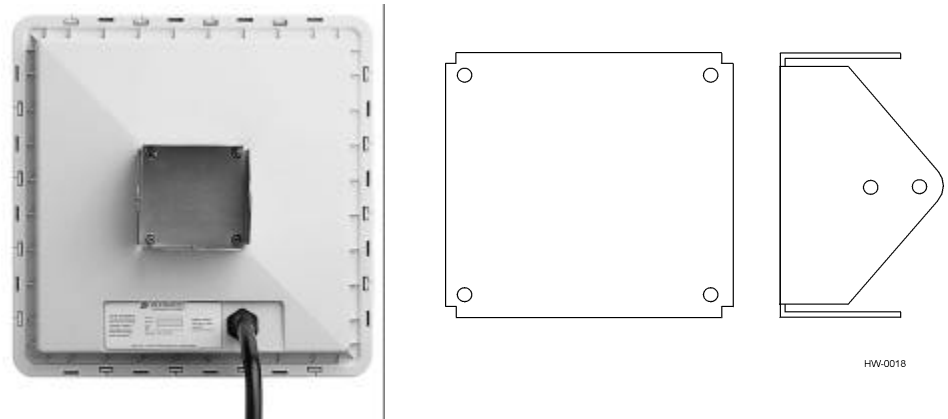
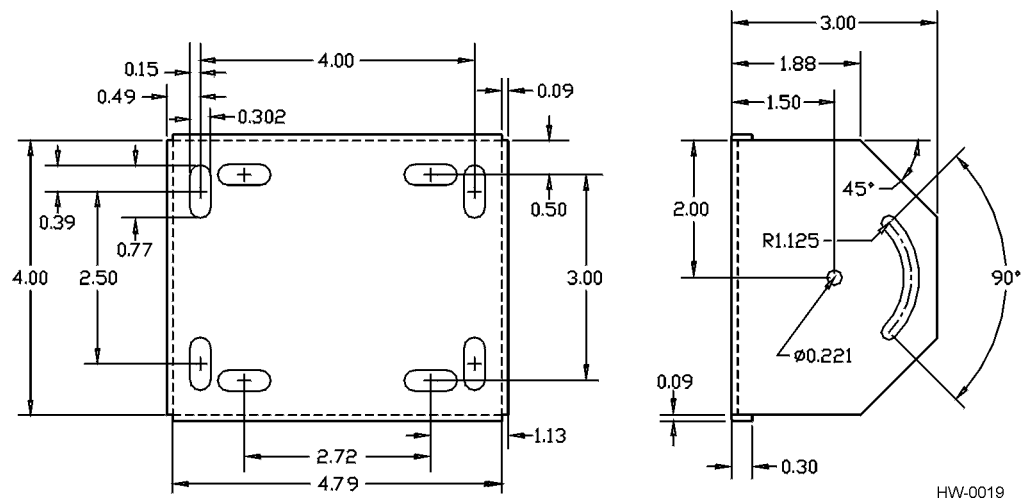

Figure 8-1 Factory-Mounted Bracket
Figure 8-2 Pole Mount Bracket Assembly
1. Unpack SmartPass. A factory-mounted bracket (Figure 8-1) is attached to the back of SmartPass, and a pole mount bracket assembly (Figure 8-2) is bubble-wrapped with SmartPass and contains a plastic bag of screws.
The basic SmartPass is supplied with a pole mount bracket assembly (Figure 8-2) that allows you to adjust SmartPass up and down. Amtech recommends using the wall mount bracket accessory kit (Figure 8-5) to provide additional horizontal aiming flexibility when attaching SmartPass to a pole with flat sides, or to a wall or ceiling where other structures may interfere with accurately aiming SmartPass toward the tags.